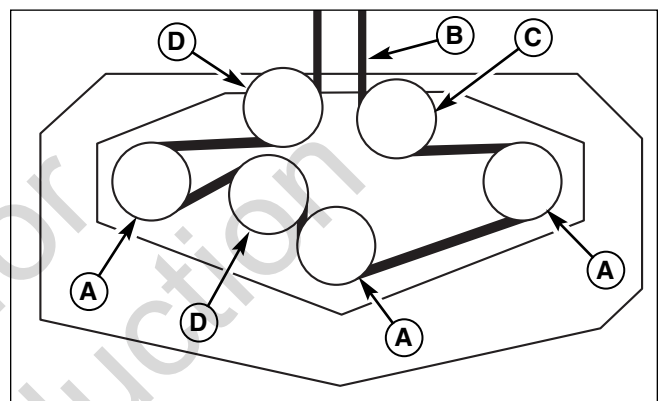

Figure 42. Mower PTO Belt Routing
4. Slide the drive belt over the edge of the stationary idler pulley (B). Carefully release the tension on the breaker bar.
5. Remove the old belt and replace with a new one. Make sure the V-side of the belt runs in the pulley grooves (Figure 42).